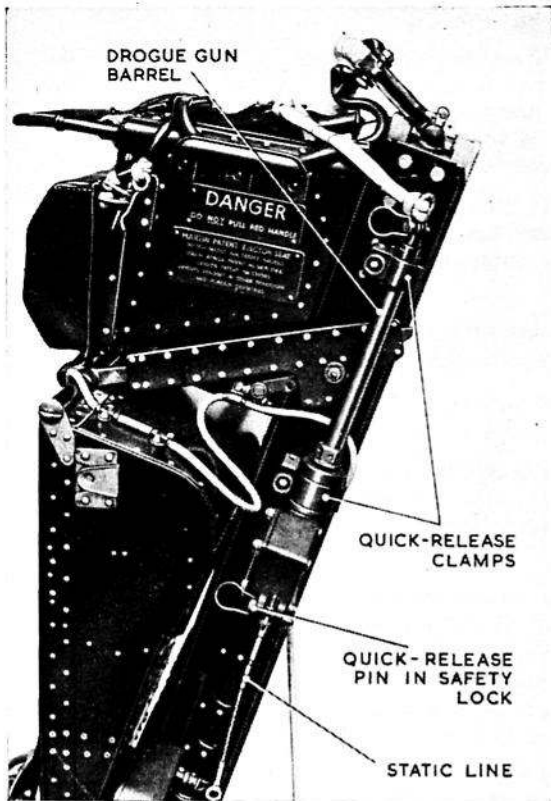

Fig. 4. Removing the drogue gun
- (2) Disconnect the drogue withdrawal line by pulling out the quick-release pin which attaches it to the drogue gun piston.
- (3) Operate the two quick-release clamps (fig. 4) and lift out the drogue gun.
4. (1) Remove the parachute and dinghy pack.